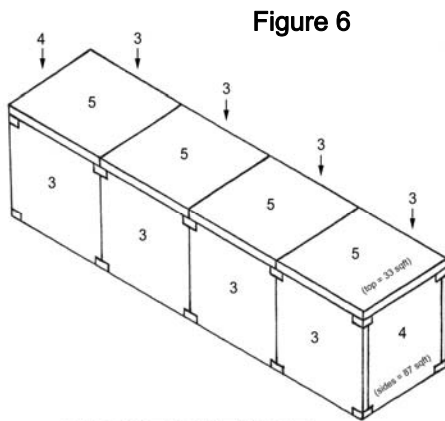

Figure 6
6. Once brackets are in place, if top panels are to be used (WT Models), set these panels, using adhesive (refer to Figure 6 for correct panel placement for this kit). Island kit assembly is now complete.